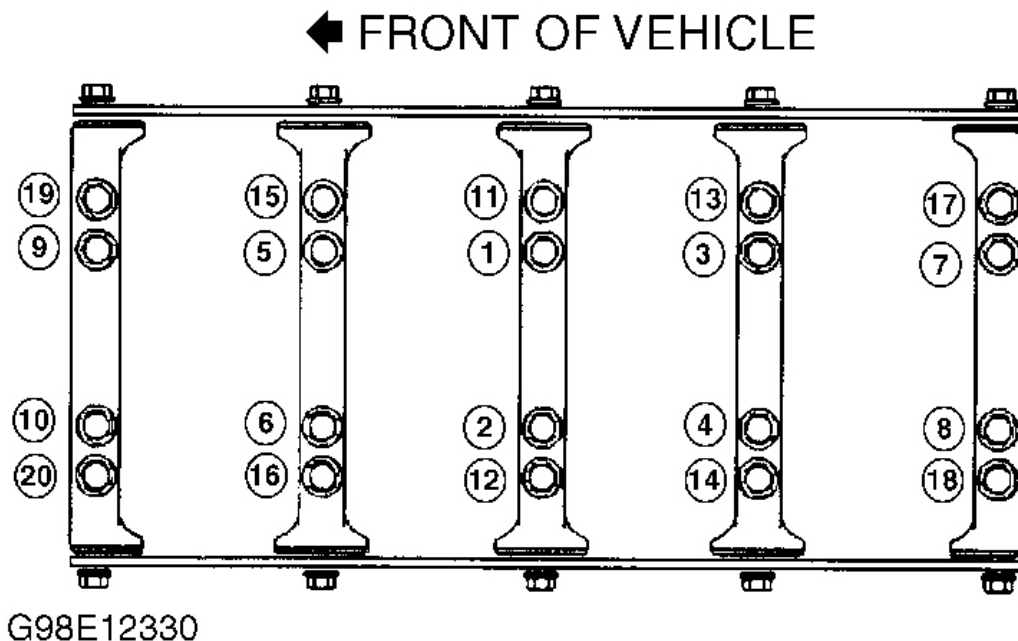

Fig. 12: Main Cap Bolt Tightening Sequence
1. Remove bearing cap M8 side bolts prior to cap removal. Remove bearing cap M10 bolts and studs. Install Crankshaft Bearing Cap Remover (J 41818) to the bearing cap. Tighten bearing cap remover bolts to 100 INCH lbs. (11 N.m). Install Slide Hammer (J 6125-1B) to bearing cap remover to remove cap. If bearing clearance is greater than specification, replace with undersize bearings. Recheck bearing clearance using Plastigage. Install NEW M8 main cap side bolts. Tighten main bearing cap bolts to initial torque in sequence. See **Fig. 12** . See **TORQUE SPECIFICATIONS** table.
<p>(1) See INSTALLATION under CYLINDER HEADS for procedure and specifications. See Fig. 5 .</p> <p>(2) Tighten bolts evenly using a crisscross sequence.</p> <p>(3) Tighten bolts in sequence. See Fig. 12 .</p> <p>(4) Tighten to 106 INCH lbs. (12 N.m)</p> <p>(5) Tighten bolts in sequence. See Fig. 4 .</p>